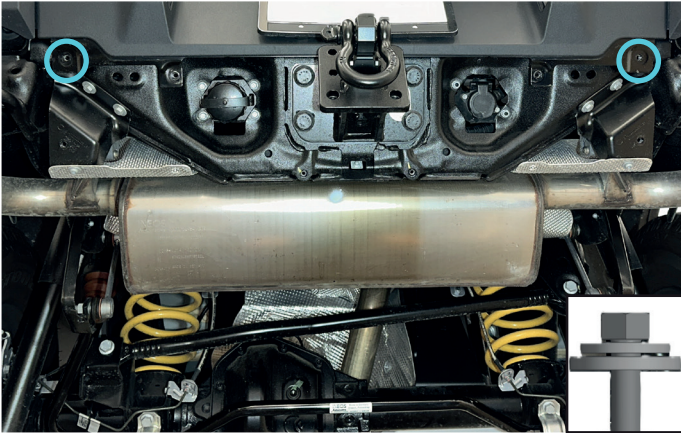

Fig. 1
1. Loosely install supplied M8x1x25 bolts with M8 and M10 washers (items A, B,C) as shown in fig.1.